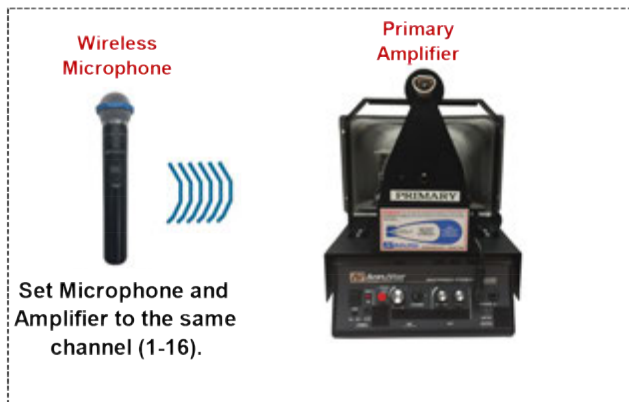

Figure 1
2. Wireless Option *(See Figure 1)*